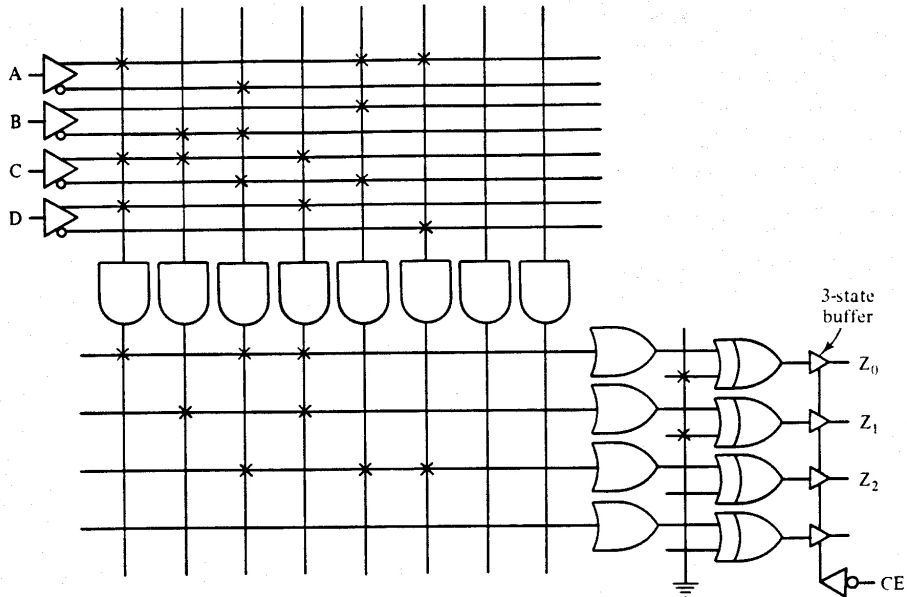

Figure 6.38 Programmed PLA for Problem 6.12.
- 6.12. Given the programmed PLA of Fig. 6.38 with functions similar to those of the 82S100 FPLA,